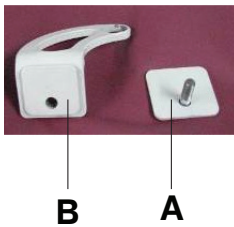
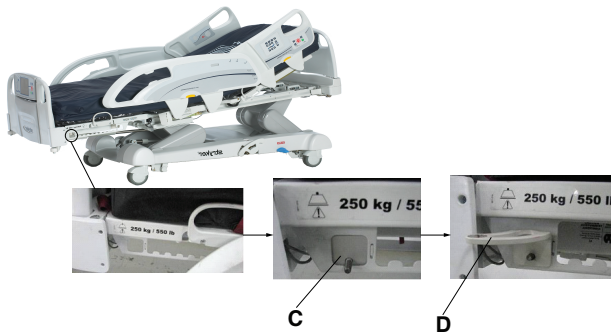

Figure 125: Bracket and bracket back
Figure 126: Attaching the bracket back and bracket
1. Attach the bracket back (A) and the bracket (B) (Figure 125 on page 112) onto the end of the foot end Foley bag hook at the foot end of the product (C and D) (Figure 126 on page 112).